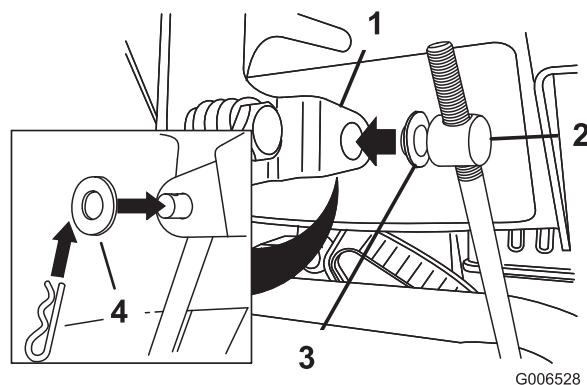

Figure 5
3. Place a flat washer on the trunnion (Figure 5).
6. Pull up on the speed control rod and insert the trunnion into the hole in the speed selector lever (Figure 5).
- B. Disconnect the trunnion from the speed selector lever (Figure 5).
- C. Turn the trunnion upward (counterclockwise) on the speed control rod (Figure 5).
- D. Connect the trunnion to the speed selector lever (Figure 5).
- C. Turn the trunnion downward (clockwise) on the speed control rod (Figure 5).